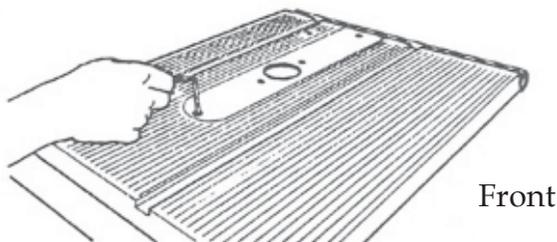

Figure C-89
4. Using your 5/32" Allen wrench, remove the Saw Table Insert (138) and replace it with the Shaper/Router Table Insert (see figure C-89).